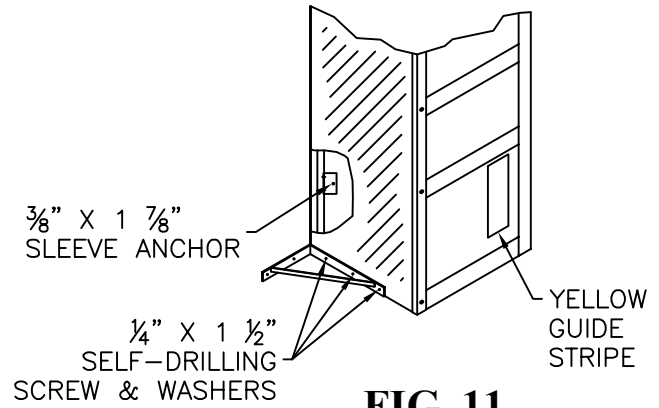

FIG. 11
- If using Stabilizing Bracket (Figure 11):